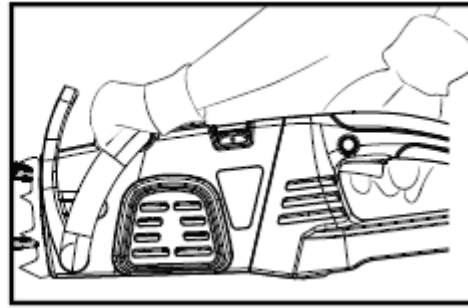

Fig. 6B
2. Grasp the saw with both hands, with the left hand holding the front handle (do not hold the chain brake) and the right hand holding the rear handle. Thumbs and fingers should surround both handles (Fig. 6B).